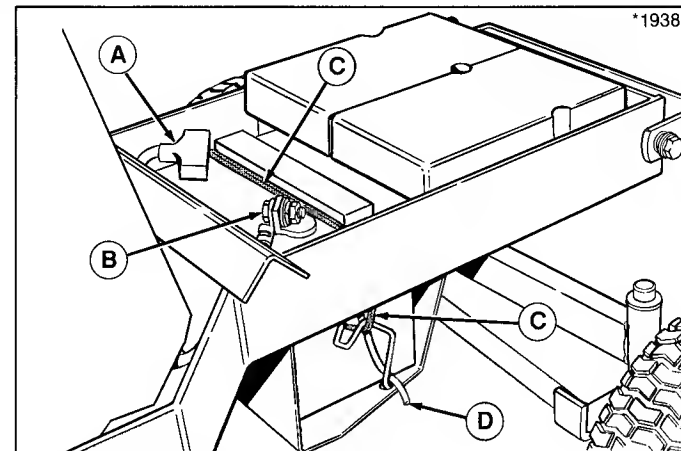

Figure 19. Battery
1. Lift rear platform to locate battery (figure 19). Disconnect the cables from the battery, negative cable first. A positive "+" sign is stamped on the battery next to the positive terminal.